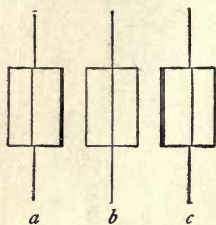

FIG. 82.—LINE AS SEEN (a) FROM THE RIGHT, (b) FROM IN FRONT, AND (c) FROM THE LEFT
4. A piece of plate glass is placed over a straight line drawn upon a piece of paper. Explain the different effects (Fig. 82) when it is looked at from different points as indicated.